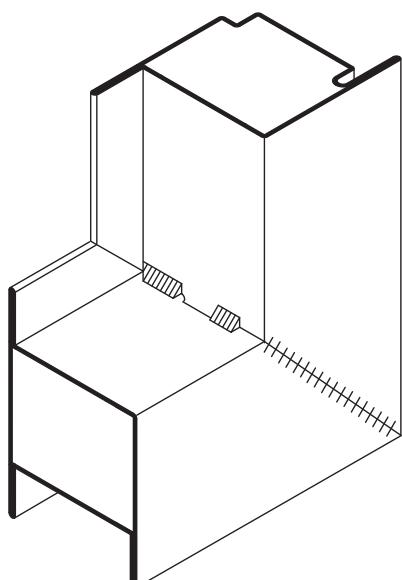

Fig. 107 Jansen-Economy 50/60 door leaf frame welded in the glazing rebate
- Weld the profiles continuously, where possible Fig. 107/108)